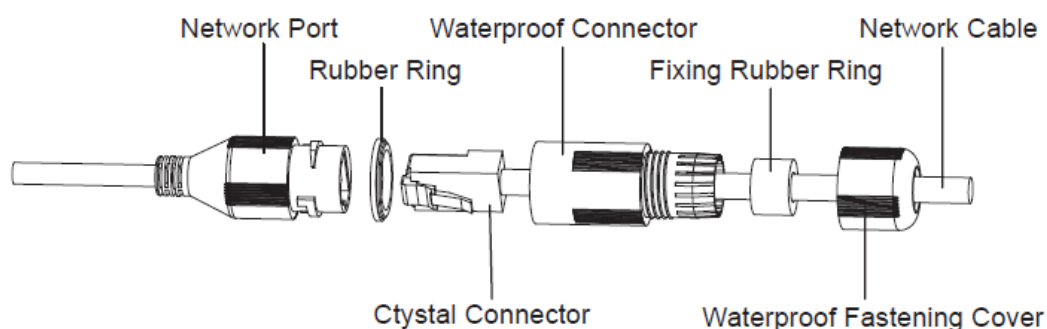

Figure 2-3
Step 5 Install waterproof connector for network port, which is shown in Figure 2-3.